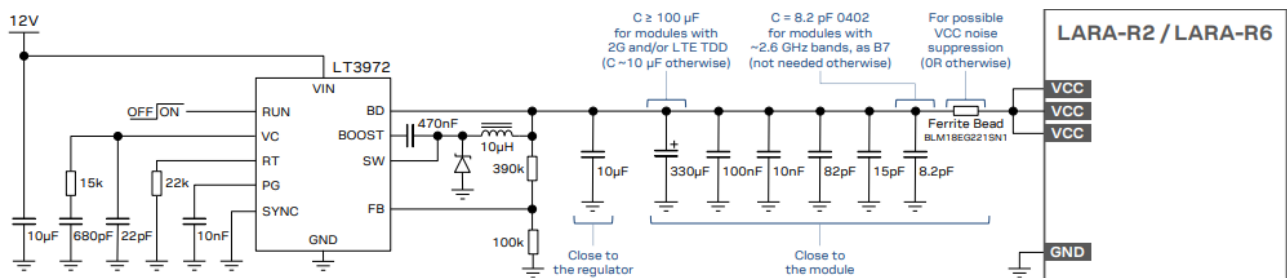

Figure 4: Example of compatible VCC supply application circuit using a high reliability step-down regulator
- As the LARA-R2 and LARA-R6 series modules have compatible power requirements, there are only minor differences in their VCC input voltage ranges and current consumption figures. The same compatible external VCC supply circuit can be implemented for all the LARA modules, as for example the one described in Figure 4.
- The VCC supply circuit illustrated in Figure 4 includes capacitors with Self-Resonant Frequency in the supported RF cellular bands, intended to be placed close to the VCC pins of the module, narrowing the VCC line down to the pad of the capacitors, to adequately filter EMI in the supported RF cellular bands. Additionally, a ferrite bead specifically designed to suppress EMI in the GHz band is placed very close to the VCC pins of the module to suppress possible noise from the VCC line.